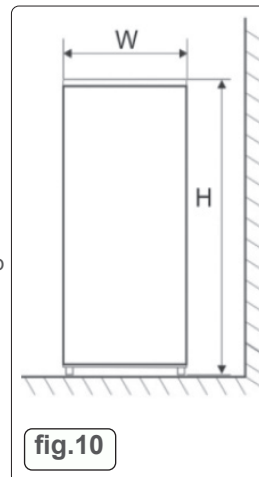

fig.10
- **NOTE:** Fig. 10, Fig. 11 illustrate the space required around the unit installation.